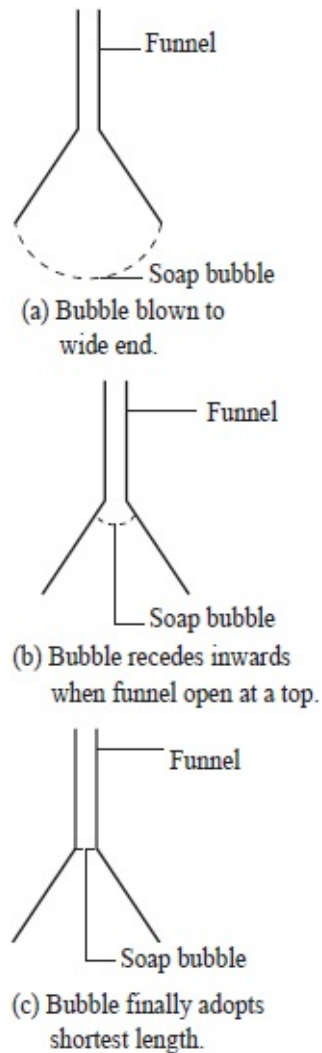

Fig. 3.17
- Take it out and blow a soap bubble to the wide end, see figure 3.17 (a).